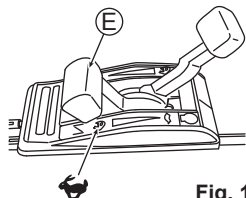

Fig. 15
2. Set Throttle lever (E) to "STOP" to start mowing. (See Fig. 15)